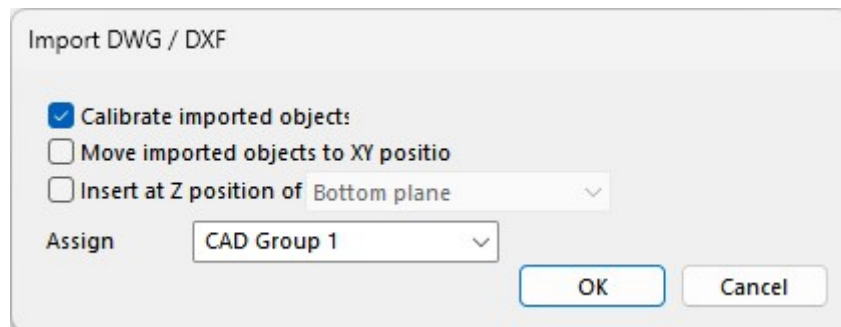

Figure 2.6-1 - Project Calibration Dialog
- The *Import DWG/DXF* dialog (**Figure 2.6-1**) will appear. Check the box next to **Calibrate imported objects**.